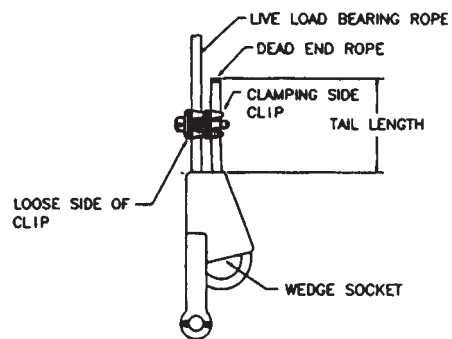

FIG. 2
4. Tighten nuts evenly. Alternate tightening each nut until reaching the required torque specified. Figure 2.